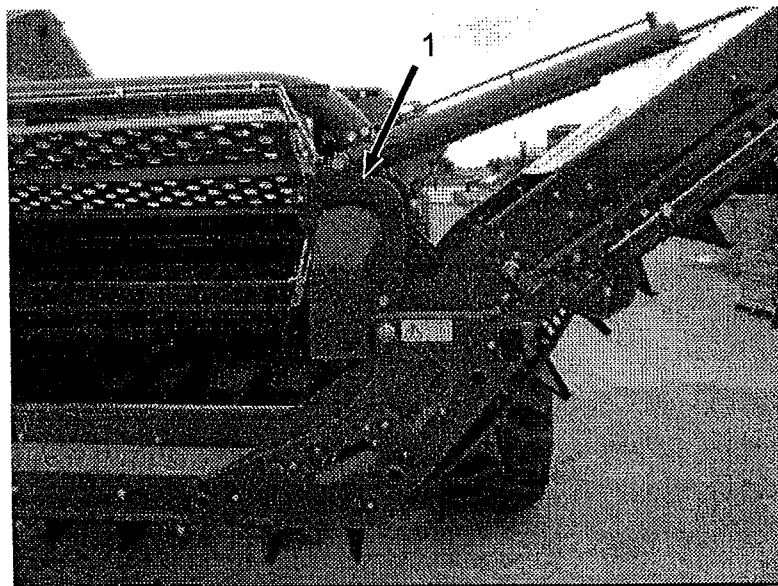

Fig 10.20
A bracket added to the elevator main section hydraulic ram mountings (Fig 10.20 item 1). This enables the main section to travel out to a lower angle, which in turn allows the swan neck section to reach lower into the trailer or box being filled.